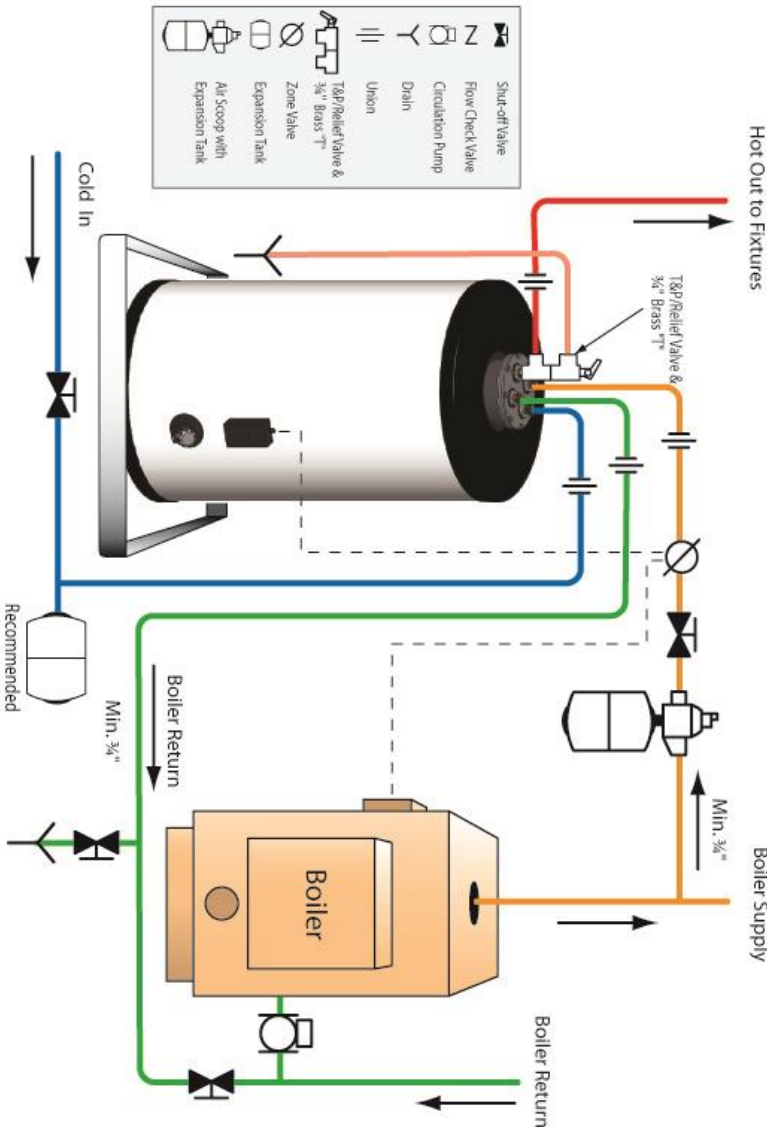

FIGURE 1
- ❑ **WARNING: Plastic O-ring housing must be properly installed. (See FIGURE 1 on page 17). Failure to do this will void the warranty.**
4. Hold the clamp together with one hand and tighten the nut with the other hand. See FIGURE 1 on page 17.